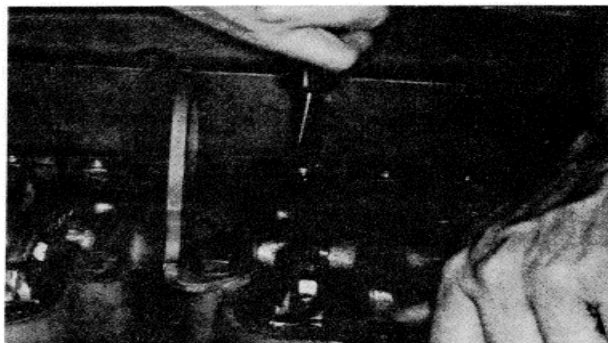

Fig. 2-55, (N114215) Adjusting valves
2. Loosen locknut and back off the adjusting screw. Insert feeler gauge between rocker lever and crosshead. Turn the screw down until the lever just touches the gauge and lock the adjusting screw in this position with the locknut. Fig. 2-55. Tighten locknut to 40 to 45 ft-lbs [54 to 61 No m] torque. When using ST-669 torque to 30 to 35 ft-lbs [41 to 47 N•M].